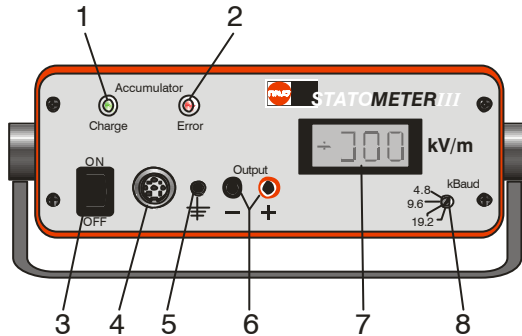

Figure 2
1. Before connecting, always check whether the unit is suitable for use with the local mains voltage. The unit is designed for operation with rechargeable battery and 230 V. The mains voltage is indicated by the number on the fuse holder (refer to Figure 2, item 13, page 8). Incorrect mains voltage may result in damage to the unit.
1. Open the covers (refer to Figure 2, item 10, page 8) overleaf the unit.
The PC has to be connected with the unit over the optical transmission cable at the serial interface (refer to Figure 2, item 9, page 8). Also an USB-Adapter (refer to chapter 7.3, page 18) is offered as accessories.